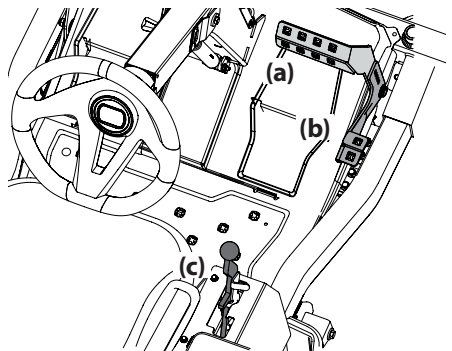

Figure 18
2. To travel FORWARD, slowly press the forward drive pedal (a) forward until the desired speed is achieved. See Figure 18.
3. To stop or slow down the tractor, take your foot off of the forward (a) or reverse drive (b) pedal. To lock the parking brake, place drive control pedals in neutral and pull the park brake lever (c) back. See Figure 18 on page 17.
4. To travel in reverse, check that the area behind is clear then slowly push down on the reverse drive pedal (b) with the ball of your foot (NOT your heel) until the desired speed is achieved. See Figure 18 on page 17.